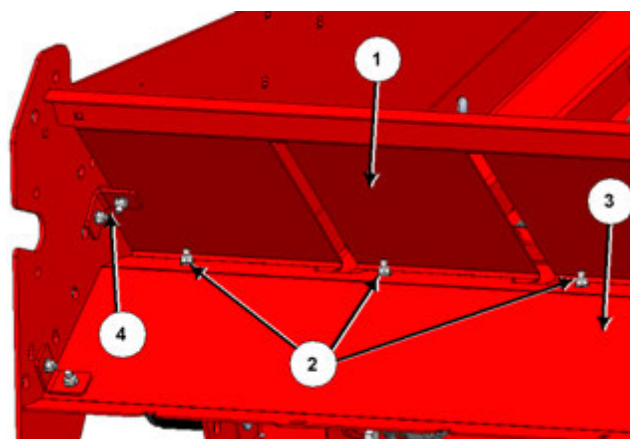

Figure 8: Remove upper bent side sheet
- b. Remove the upper bent side sheet (1); see *Figure 8*:
- i. Remove the bolts (2) fastening the upper bent side sheet (1) to the lower bent side sheet (3).
- ii. Carefully remove the bolt fastening the upper bent side sheet (1) to the tub mount (4), ensuring to support the side sheet.
- iii. Support the free end of the side sheet (1) and carefully remove the remaining bolt fastening the side sheet to the opposite tub mount.
- v. Remove the remaining bolts fastening the tub mounts (4) to the tub wall. Remove the tub mounts.